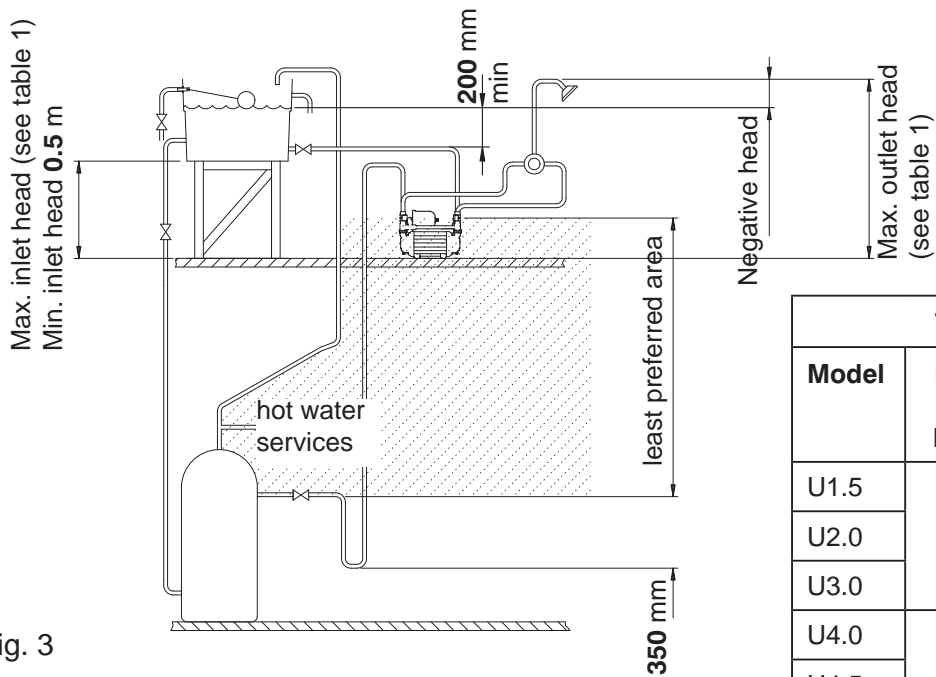

Fig. 3
2.26 **Non-preferred pump location:** If it is not possible to locate the pump in the preferred area due to site limitations and it is necessary to position the unit in the loft, or in a position above the secondary tapping that feeds the pump, then there is an increased risk of air locks. This risk must be eliminated. The following measures are suggestions that may overcome the problem: A “U” bend or downward loop in the supply pipe to the pump of 350 mm depth before rising to the pump should ensure the cylinder vents its air up the expansion pipe not up the pump feed (Fig. 3).